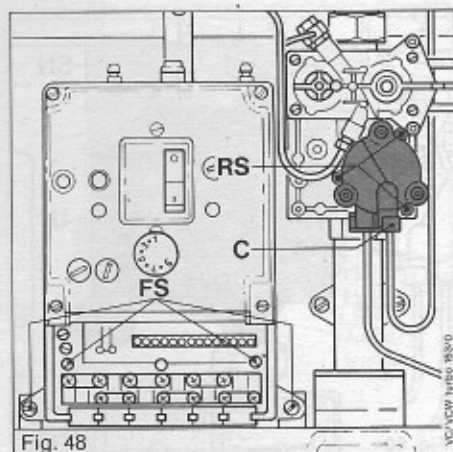

Fig. 48
14.4.3 Change of differential valve (Fig. 48)
Unscrew the four retaining screws (FS, fig. 48). Pull out complete control box to the front.